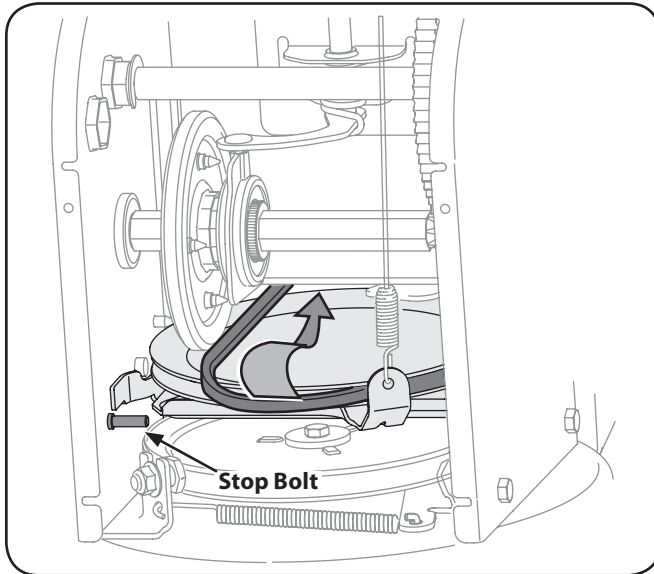

Figure 7-7
6. Back out the stop bolt to increase the clearance between the friction wheel disc and friction wheel. See Fig. 7-7.
7. Slip the drive belt off the pulley and between friction wheel and friction wheel disc. See Fig. 7-7.